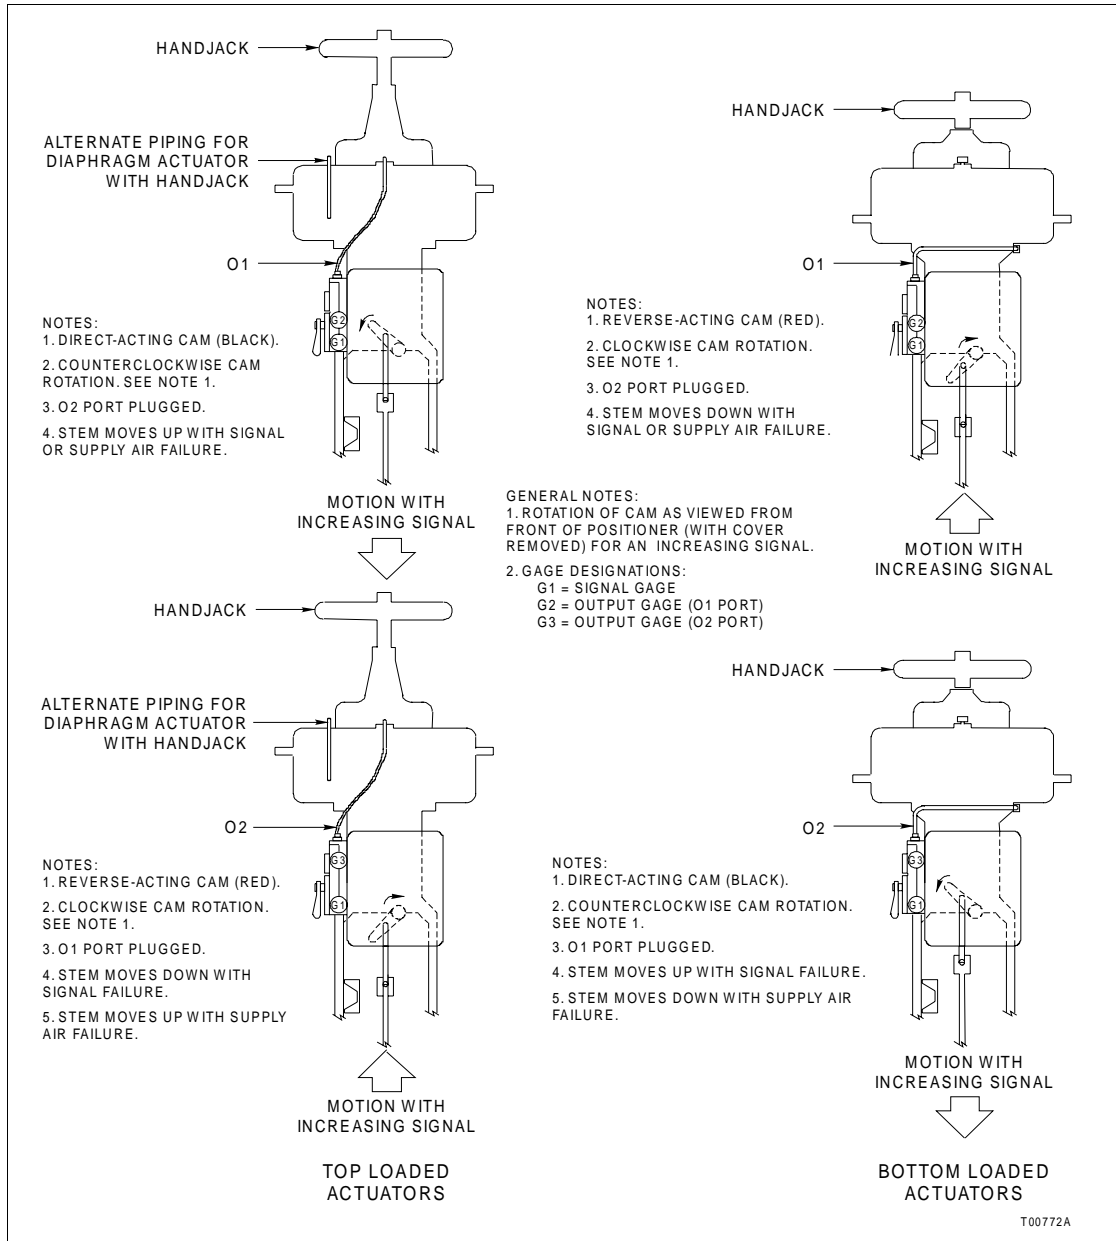

Figure B-6. Tubing Examples of Single-Acting Actuators
2. Connect the output ports 01 and 02 as required to provide the desired direction of rotation. Figure B-6 shows a single-acting tubing example and B-7 shows a double-acting tubing examples.
NOTE: The piping arrangements shown in Figures B-6 and B-7 are general examples and may not reflect exactly the arrangement required for your application.